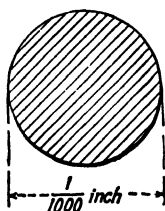

FIG. 4-59. Area of circle whose diameter is  $\frac{1}{1000}$  in. is 1 cir mil.
**The Circular Mil.** The circular mil is the unit of cross-sectional area customarily used in designating the area of wires. A circular mil is the area contained in a circle having a diameter of  $\frac{1}{1000}$  in. (see Fig. 4-59). A mil is a thousandth of an inch. The use of the circular mil as the unit of area came about because of the custom of using a square as the unit of area in measuring the areas of squares or rectangles. Naturally, when the areas of circles had to be measured a circle having unit diameter suggested itself as the natural unit of measurement. The circular mils of